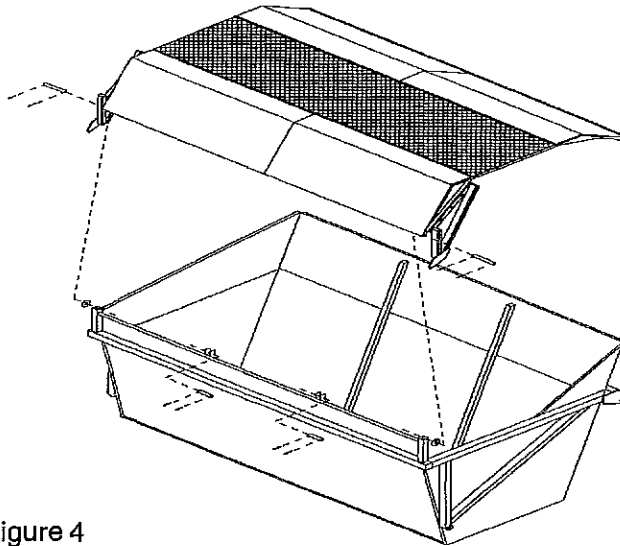

Figure 4
8. Raise the roof assembly and lower onto the top of the dump box. Attach the roof to the dump box with the (4) pins, (8) cotter pins and (2) 3/4" diameter washers as shown in Figure 4. The long pins are used on each end of the roof. The short pins are used for the center pivots.